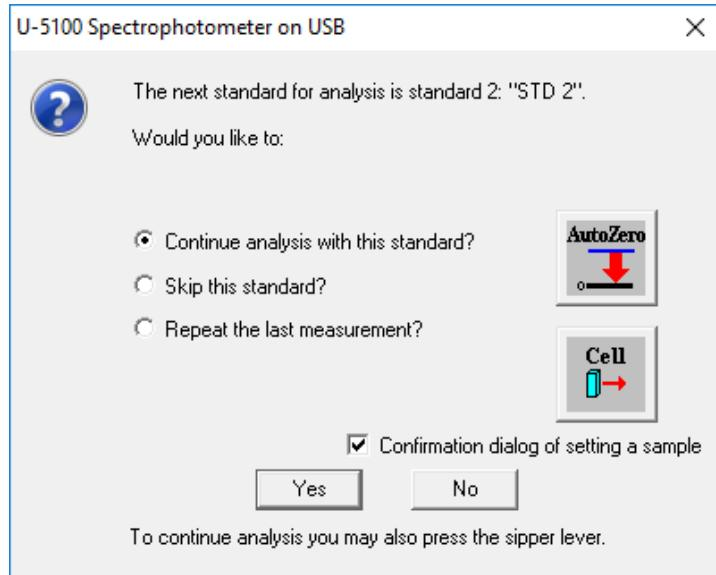

Fig. 4-50
- (9) Click the Yes button, and measurement of standard sample 1 starts. After completion of this measurement, a window as shown in Fig. 4-50 appears. Thus, carry out measurement according to the window/message boxes. Measure standard samples according to the guidance until the set number of standard samples on the Standards tab in Analysis Method have all been measured.